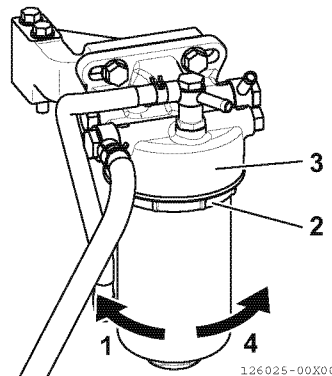

Fig. 00-46
3. Turn and remove the fuel filter counterclockwise (1, Fig.00-46) by hand or filter wrench. When using a filter wrench for removal, use a YANMAR genuine or a plier type to the plastic part of the filter (2, Fig.00-46). Refer to 0000-07-05-01 "Special Service Tools" for YANMAR genuine filter wrench. When removing the fuel filter, hold the fuel filter carefully not to spill fuel. Wipe spilled fuel.
5. Attach a new fuel filter to the head (3, Fig.00-46). Turn the filter clockwise (4, Fig.00-46) by hand, and tighten until it hits the head. The target torque is 30 ± 5 N·m, but do not use any tools.